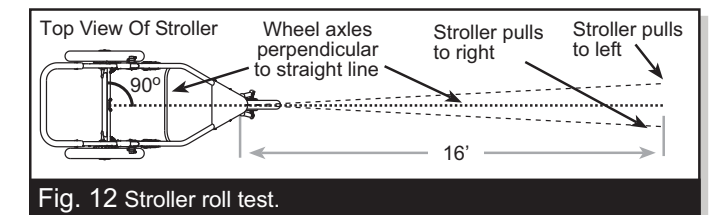

Fig. 12 Stroller roll test.
Note: Tracking adjustment can only be performed with the stroller fork locked out (jogging configuration). Roll test the stroller as described below. It is recommended you have someone assist with this task in order to catch and return the stroller. Fig. 12 illustrates the roll test process.
d. If the stroller consistently pulls to the left or right when pushed straight, proceed with the steps below until tracking is satisfactory. Fig. 12. illustrates how to interpret the results.